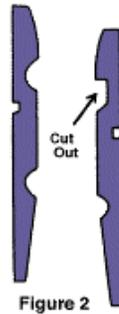

Figure 2
3. Temporarily separate the wooden pieces of the clothes pin and file the "jaw" of one piece square as shown in figure 2. Drill two holes through the other wood piece as shown. Drill one hole through the first wood piece as shown.